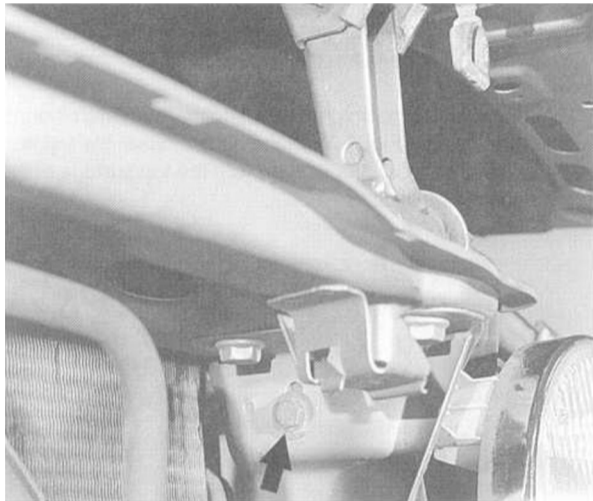

Fig. 9. Hood lock mounting bolt (**arrow**).
2. Working through grille opening, remove horn mounting bolt and move horn out of way. Then remove hood lock mounting bolt. See Fig. 9.